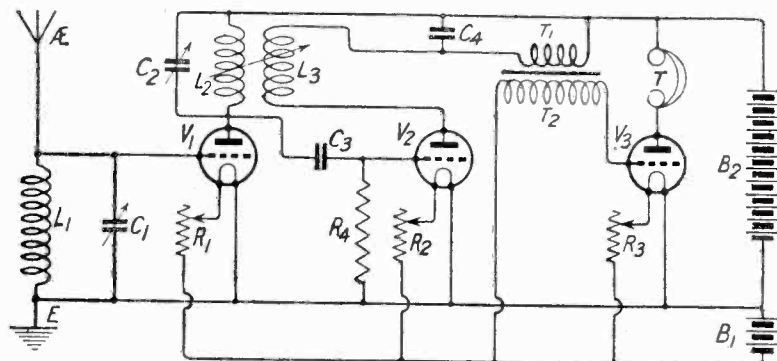
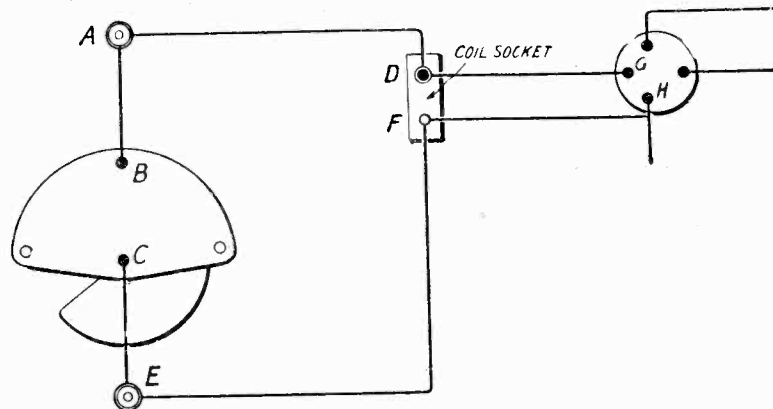

Fig. 1.—A circuit in which a break in the aerial circuit may produce very peculiar symptoms.
Fig. 2.—Part of the wiring of the set whose circuit is given in Fig. 1.
The circuit of this set is given in Fig. 1, while the wiring of the aerial circuit is illustrated in Fig. 2.
The first test was between the aerial terminal (A in Fig. 2) and the grid (G) of the first valve, a good click being obtained. Tests between A and the point B (fixed plates of aerial condenser), between the earth terminal (E) and the moving plates (C), and between E and the point F (one pole of the coil socket) were then made, and showed no fault. When the test was applied between A and the point D (other pole of aerial coil socket), however, it was found that no click could be obtained and break in the circuit being thereby indicated. Examination of the soldered joints showed them to be O.K., and therefore attention was directed to the coil socket, and here the trouble was found: the screw under whose head the wire was fastened was so short that by the time it had been withdrawn far enough to permit of the insertion of the wire its inner end no longer made contact with the metal part of the coil socket, but merely gripped in the ebonite.